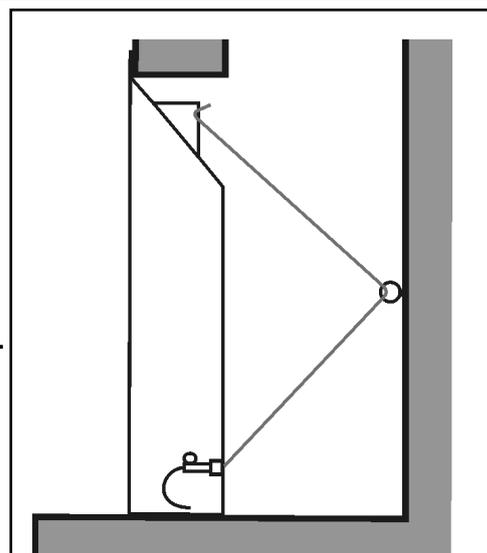

Figure 14. Cable route
**6.** Thread the cables through the eyebolts in the rear wall. Return the cables through the holes near the bottom corners of the convection box back panel (See figure 14).